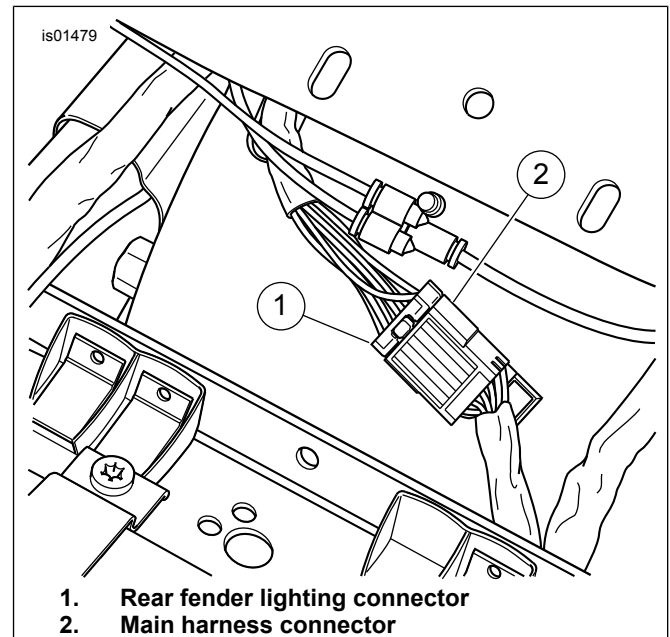

Figure 1. Typical Rear Fender Lighting Connector (FLHTC shown)
2. See Figure 1. Locate the rear wiring harness coming out of the rear fender in the area underneath the seat. Disconnect the rear fender lighting wiring connector (1) from the main harness connector (2).